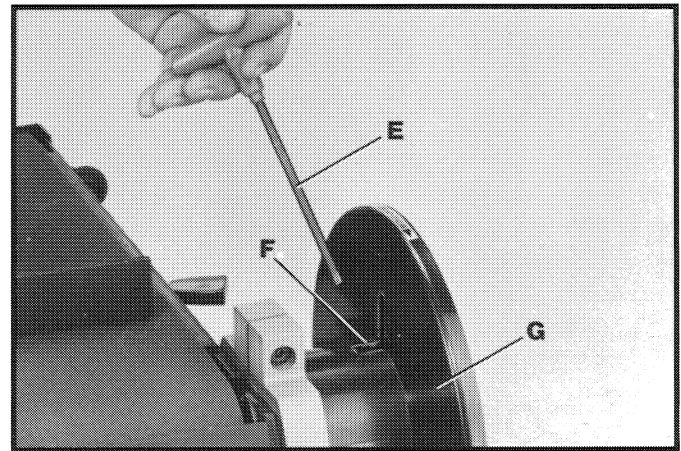

Fig. 11
3. Insert hex wrench (E) Fig. 11, down through slot (F) in the back of belt and pulley guard (G) and tighten set screw holding disc plate on drive shaft.